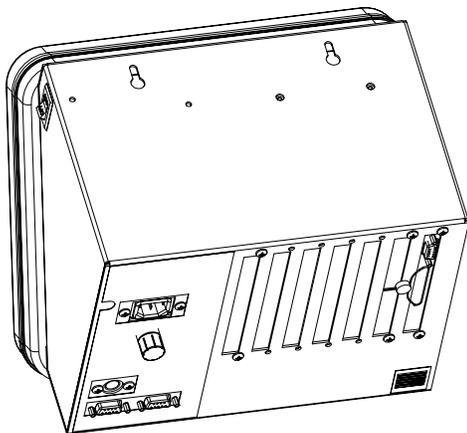

Figure No. 6
9. With the cable connections down (towards the floor), place the large end of the slotted hole in the back of the indicator over the screw heads and gently pull down to secure the indicator. See Figures No. 6 and 7.